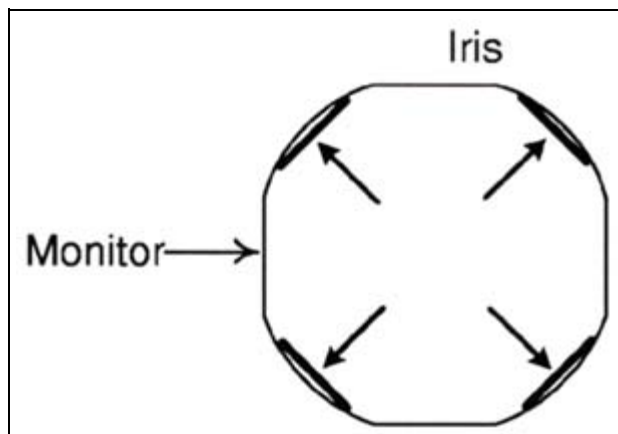

Fig. 13: X-iris
- Check whether all iris leaves are visible and symmetrically adjusted (Fig. 13 / p. 23).